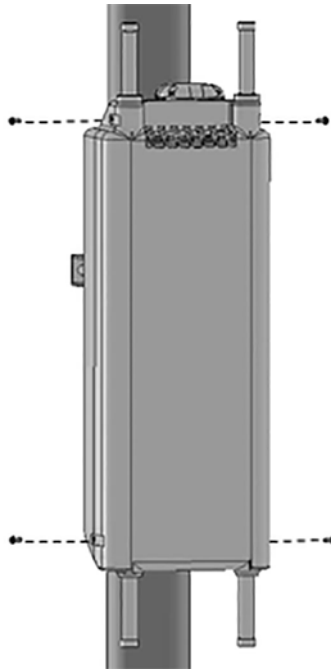

Figure 5-16 Securing solar shield on iRU4438 iRRH
2. Secure the solar shield with four (4) screws as shown in Figure 5-16.